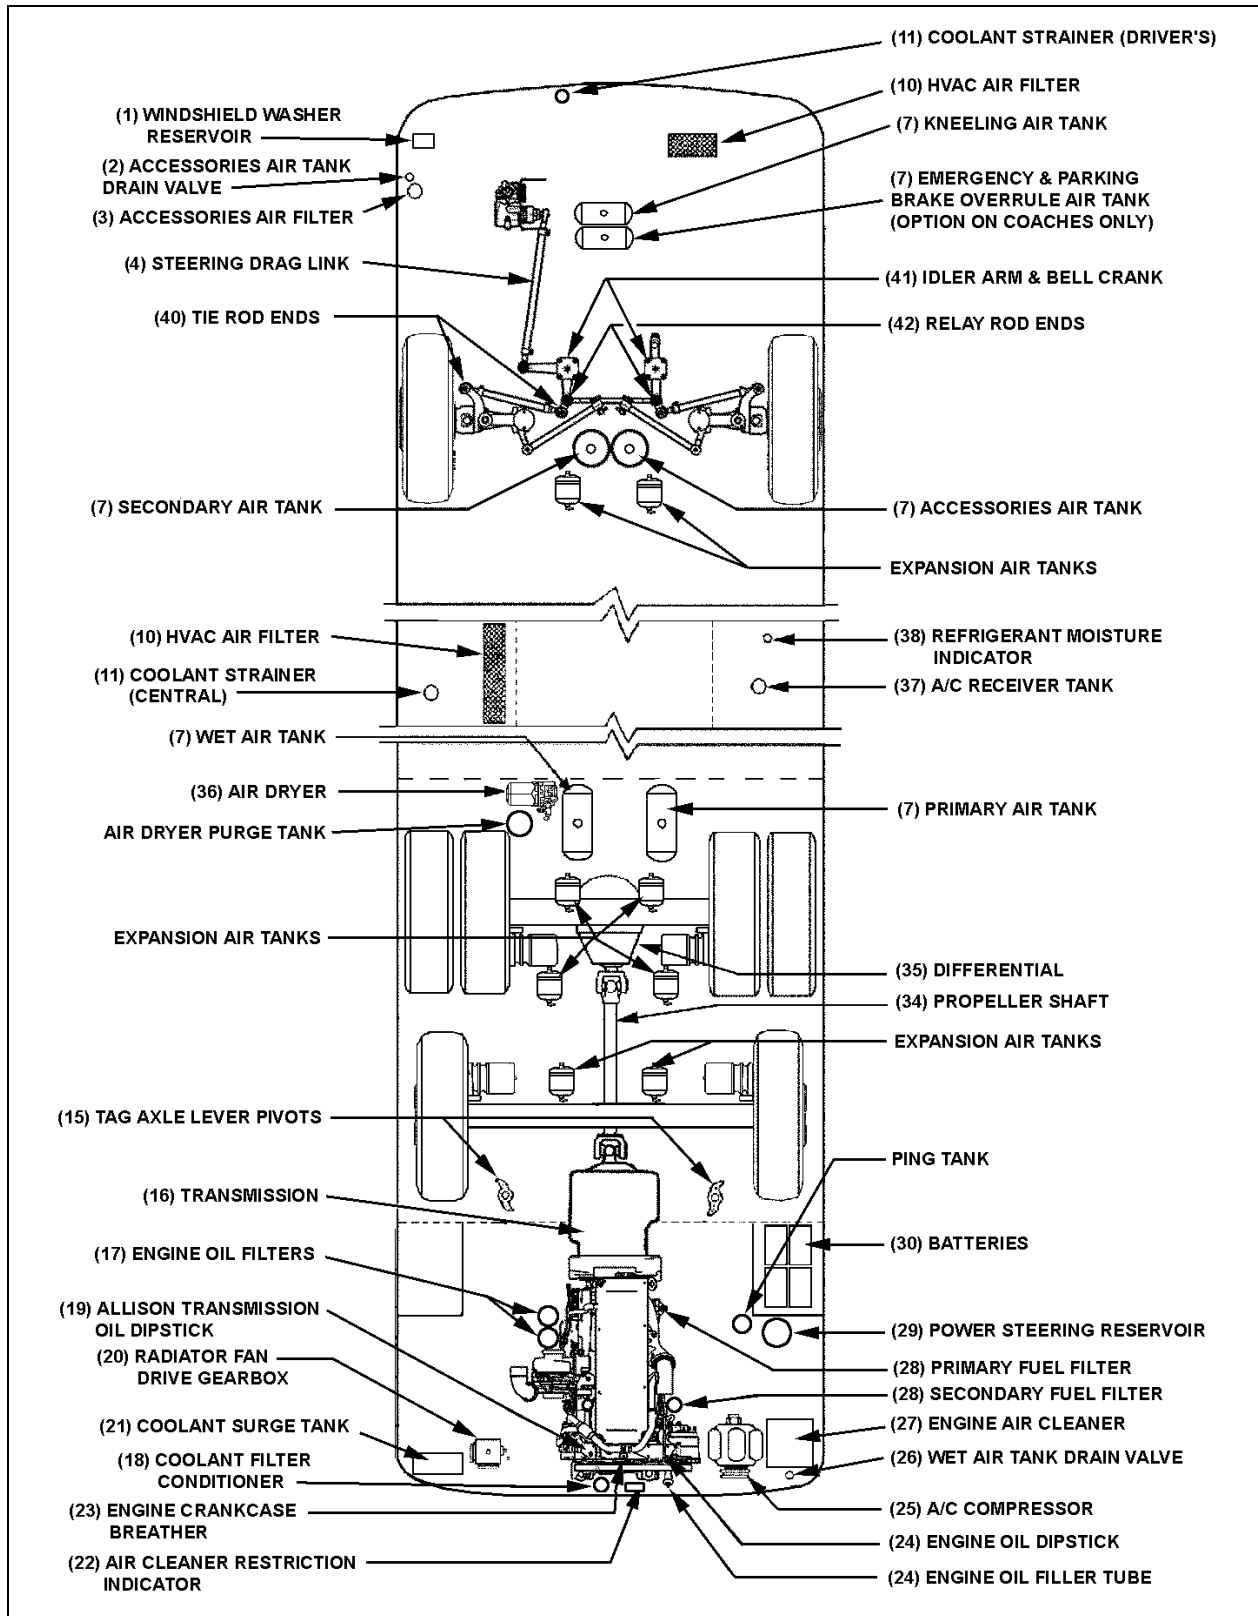

FIGURE 3: LUBRICATION AND SERVICING POINTS ON INDEPENDENT FRONT SUSPENSION VEHICLES
- FIGURE 3: LUBRICATION AND SERVICING POINTS ON INDEPENDENT FRONT SUSPENSION VEHICLES .....24-6